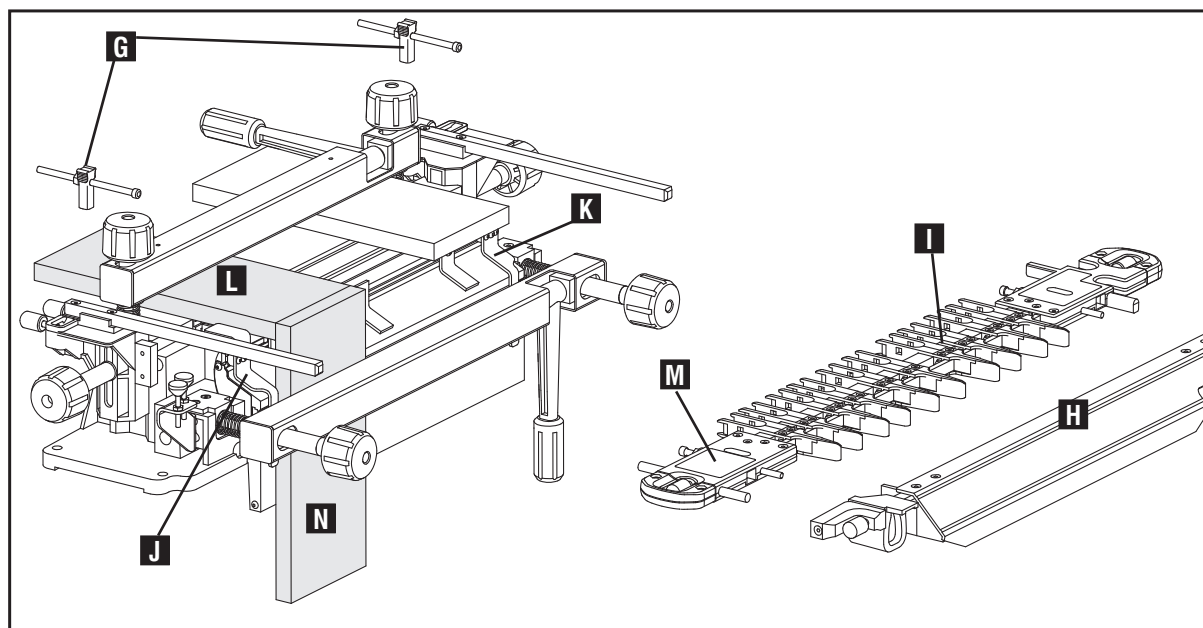

Fig. E4
1. Insert proper stops (G) Fig. E4 according to the Dovetail Setup Guide.
2. Remove stabilizer bar (H) and template (I).
3. Black edge guide (J) should be on left and silver edge guide (K) should be on the right.
4. Mount the pinboard (L) (drawer front) in the horizontal position with the "outside surface" facing down.